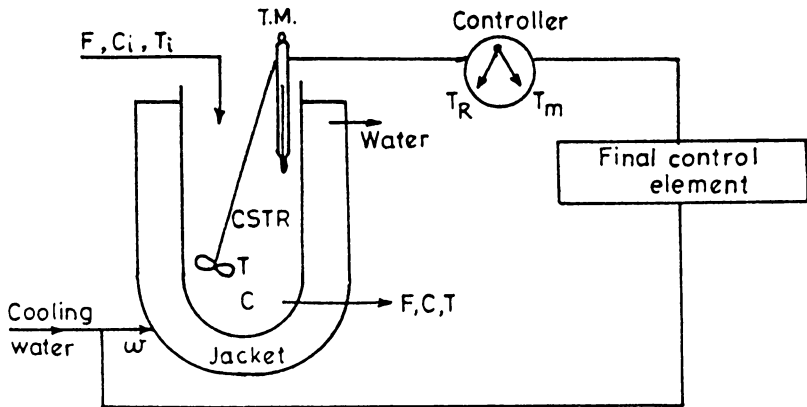

Fig. 1.31
**1.49. Parts of a control system.** For a CSTR with exothermic chemical reaction shown in Fig. 1.31, using cooling water to maintain constant temperature in the reactor, the various parts are :